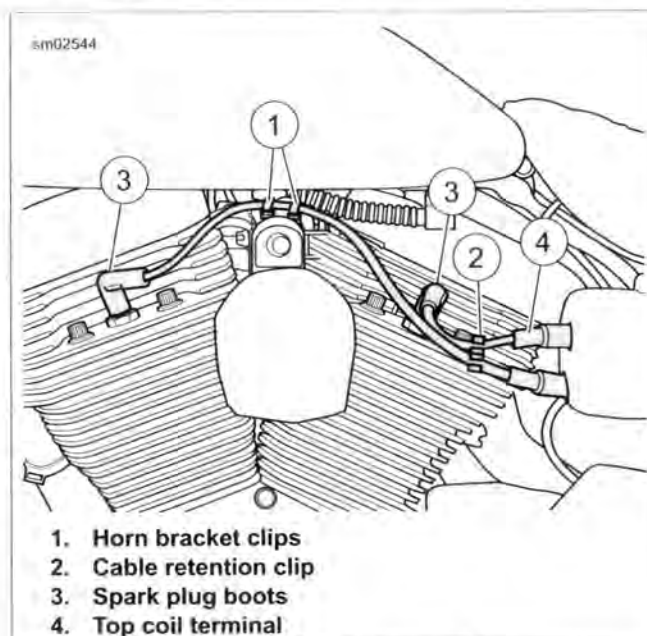

Figure 7-9. Spark Plug Cable Routing
2. See Figure 7-9. Remove horn bracket clips (1) on horn bracket for front spark plug cable.
1. See Figure 7-9. Connect spark plug cables to ignition coil and spark plugs. Rear cylinder plug cable attaches to top coil terminal (4). Fasten boots/caps securely. Tight connections provide the necessary moisture-proof environment for the ignition coil and spark plug terminals.
2. Secure front spark plug cable to horn bracket with horn bracket clips (1).
3. Install cable retention clip (2) over spark plug cables. Make sure that clip is 1.5-2.0 in (38.1-50.8 mm) from spark plug boots (3).